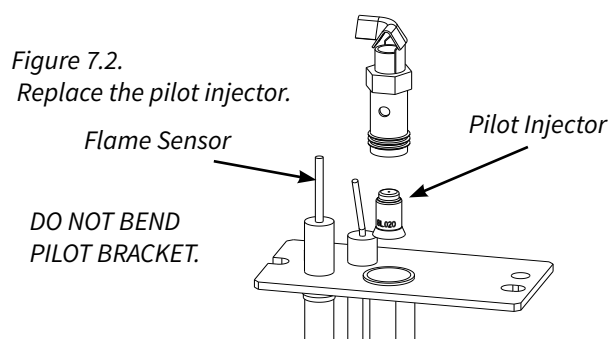

Figure 7.2.
- Use the 7/16" wrench to loosen the pilot head base enough to adjust the orifice conversion shutter. **Grasp the pilot bracket with pliers or vice-grips to prevent it from bending out of alignment.** See fig. 7.2. Install the new injector oriented as shown.